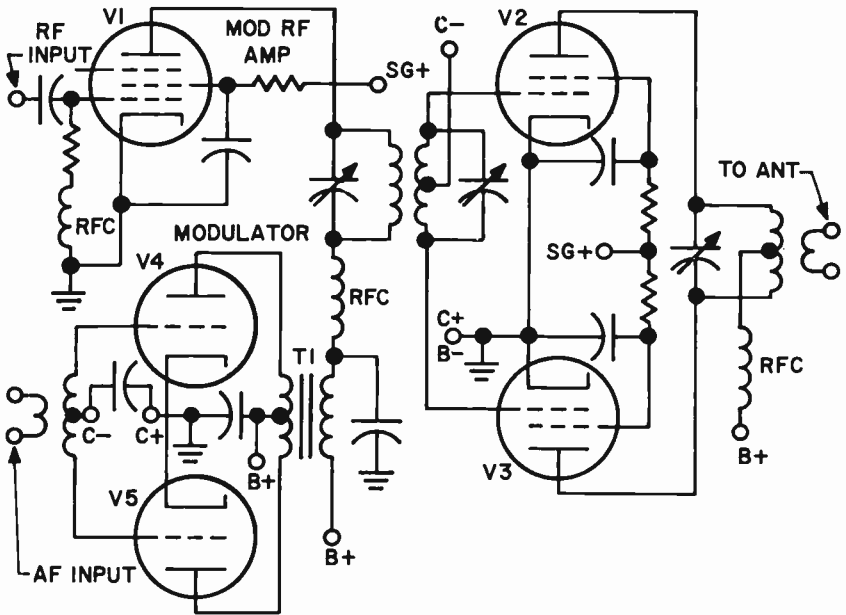

FIG. 14-10. LOW-LEVEL MODULATION.
**LOW-LEVEL MODULATION.** Fig. 14-10 illustrates low-level modulation. It has been pointed out that, in a system using low-level modulation, a stage prior to the final RF stage is modulated. In Fig. 14-10, V4 and V5 constitute a push-pull audio amplifier that modulates V1. T1 is the modulation transformer.
A linear amplifier looks like any other amplifier. A linear amplifier is designed by choosing the proper tube and using the correct grid bias, screen and plate voltages. The final RF amplifier stage of Fig. 14-10 is operated Class B.